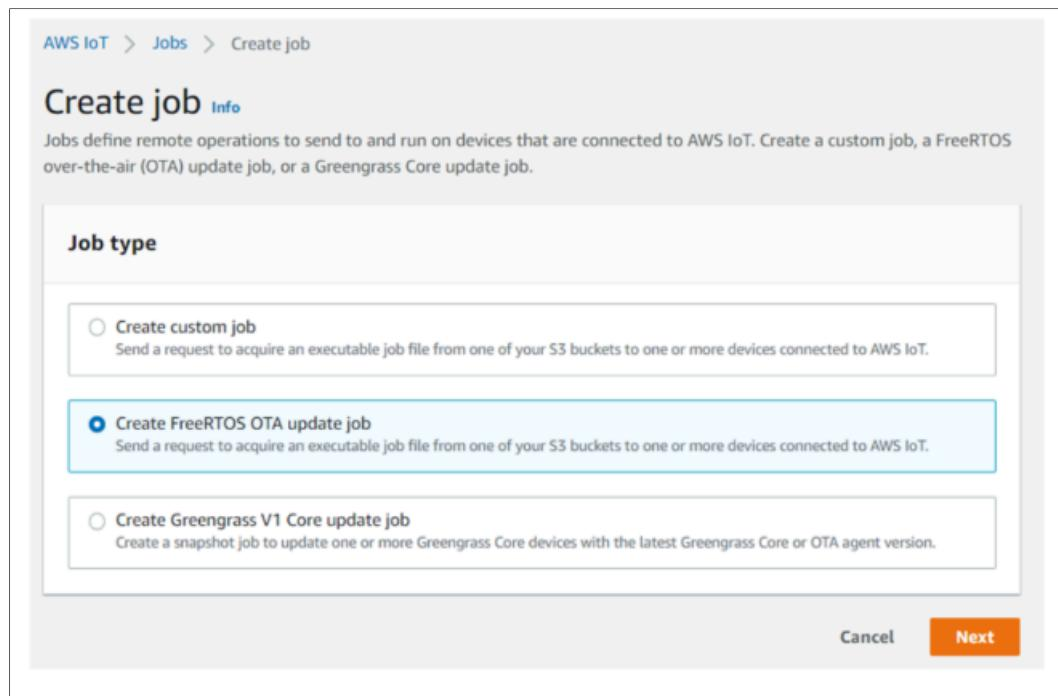

Figure 21. Create OTA job – Job types
2. A new window appears. Inside this window, select Create FreeRTOS OTA update job as shown in Figure 21: